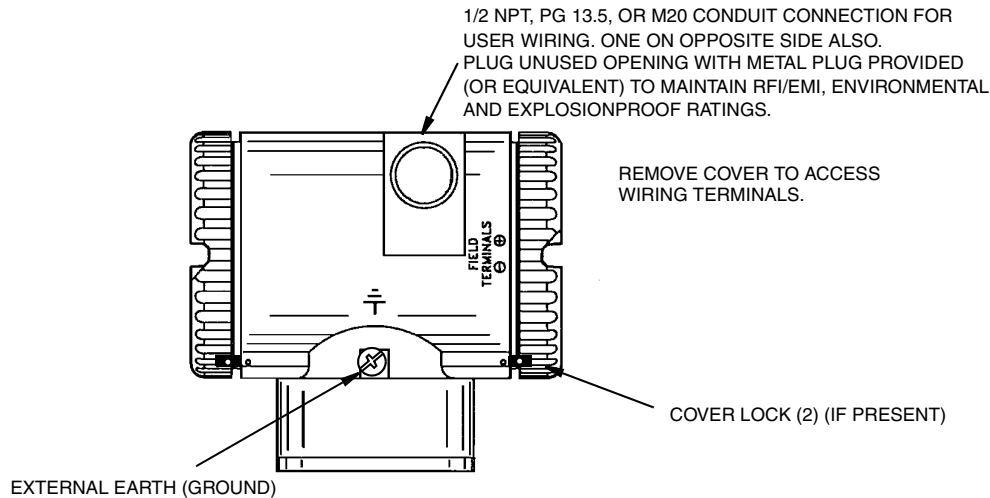
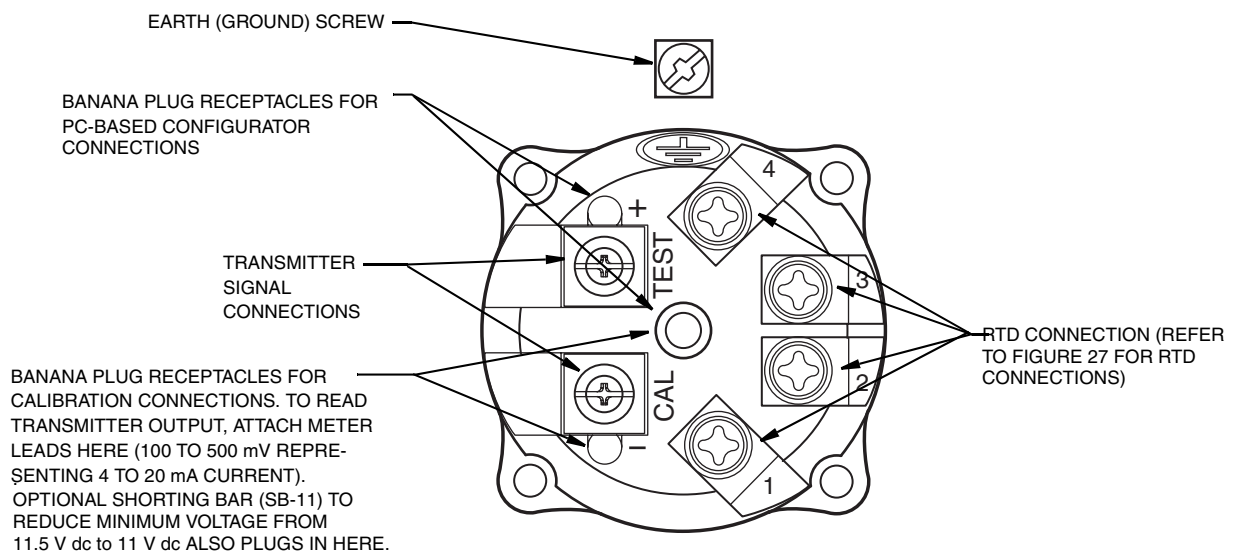
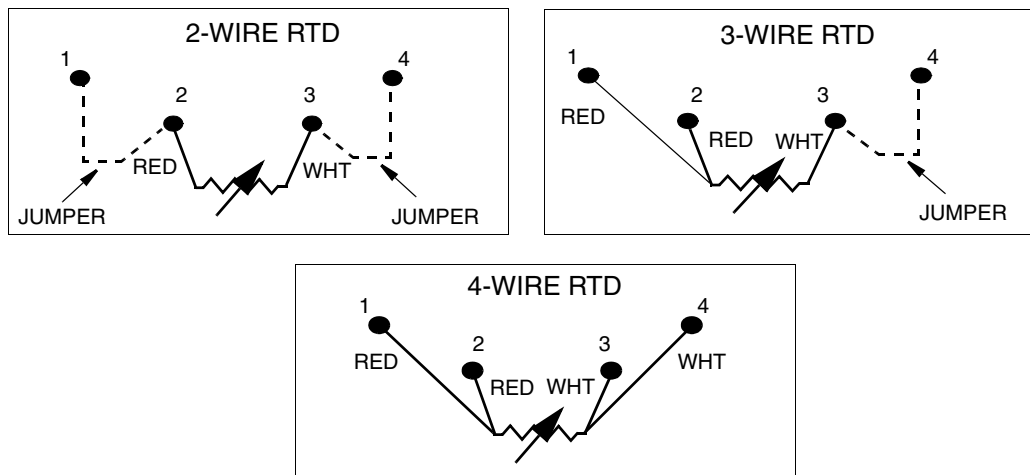

Figure 21. Accessing Field Terminals
Figure 22. Identification of Field Terminals
Figure 27. RTD Wiring
Electronic housing cover locks, shown in Figure 21, are provided as standard with certain agency certifications and as part of the Custody Transfer Lock and Seal option. To lock the covers, unscrew the locking pin until approximately 6 mm (0.25 in) shows, lining up the hole in the pin with the hole in the housing. Insert the seal wire through the two holes, slide the seal onto the wire ends and crimp the seal.
For access to the field terminals, thread the cover lock (if present) into the housing to clear the threaded cover and remove the cover from the field terminals compartment as shown in Figure 21. Note that the embossed letters **FIELD TERMINALS** identify the proper compartment. Identification of terminals is shown in Figure 22.
2. Run signal wires (0.50 mm² or 20 AWG, typical) through one of the transmitter conduit connections as shown in Figure 21. Use twisted pair to protect the 4 to 20 mA output and/or remote communications from electrical noise. Maximum recommended length for signal wires is 3050 m (10000 ft)
6. Connect the power supply and receiver loop wires to the “+” and “–” terminal connections shown in Figure 22.
5. Connect an earth (ground) wire to the earth terminal in accordance with local practice. Ground terminal is shown in Figure 22.
6. Connect the signal wires to the transmitter “+” and “-” terminal connections shown in Figure 22.
7. The HART Communicator or PC-Based Configurator can be connected via banana plugs to the top two receptacles (designated **TEST**) on the terminal block in the field terminal compartment as shown in Figure 22 or any other convenient location in the loop (subject to hazardous location restrictions).
Connect your RTD to terminals 1, 2, 3 and 4. Locations are shown in Figure 22. Wire per Figure 27.